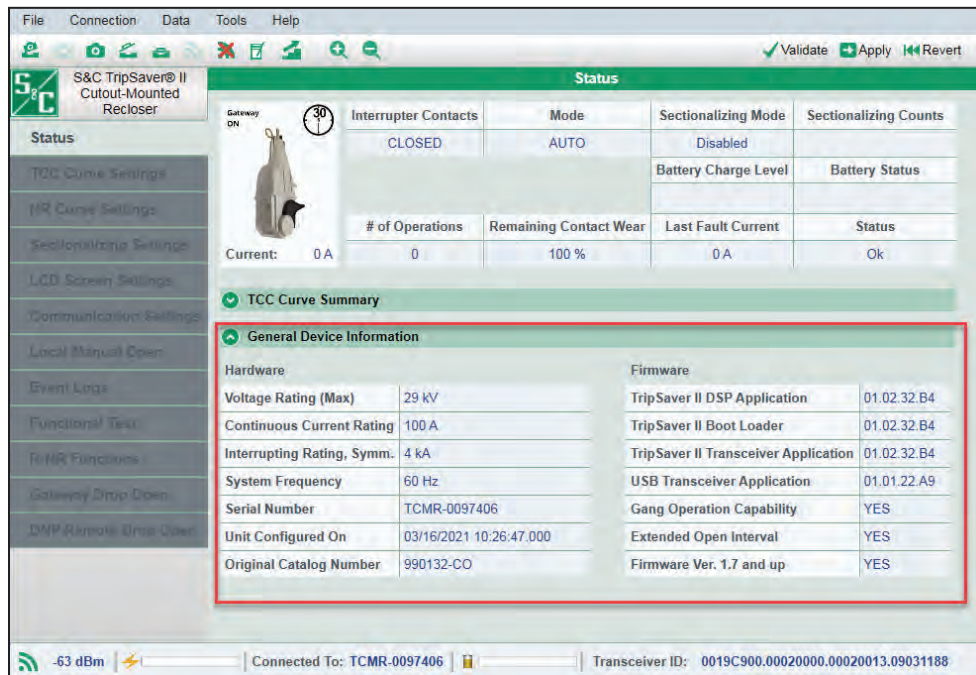

Figure 124. The General Device Information area.
The “General Device Information” section is collapsed by default. The section can be expanded by clicking on the green title located at the bottom part of the *Status* screen. See Figure 124.
**TripSaver II DSP Application.** This indicates the version of the DSP firmware the connected TripSaver II recloser is using. See Figure 124 on page 88.